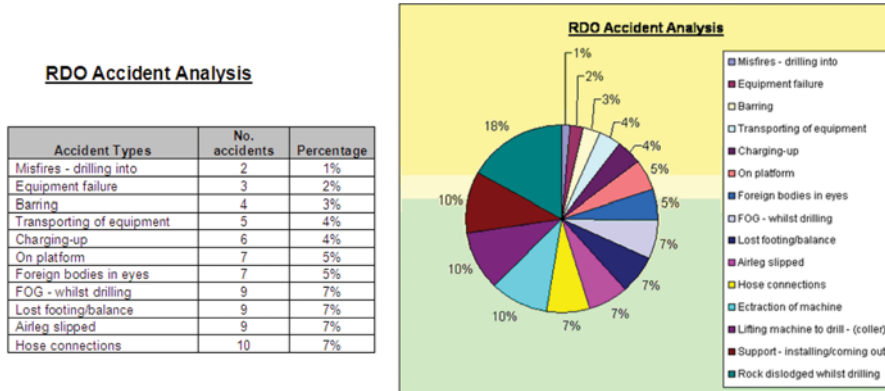

Figure 12—RDO accident analysis
- Why use an Autorock drill rig support holes and install roof bolt support? See accident statistics detailed in Figures 12 and 13.